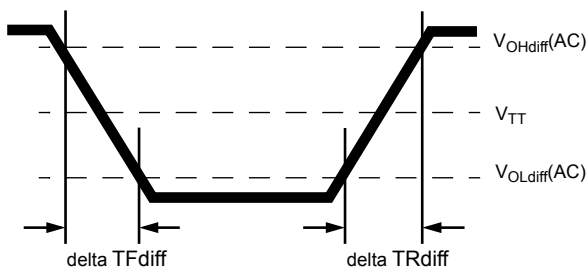

Figure 7. Differential Output Slew Rate Definition
With the reference load for timing measurements, output slew rate for falling and rising edges is defined and measured between VOLdiff(AC) and VOHdiff(AC) for differential signals as shown in Table 15 and Figure 7.